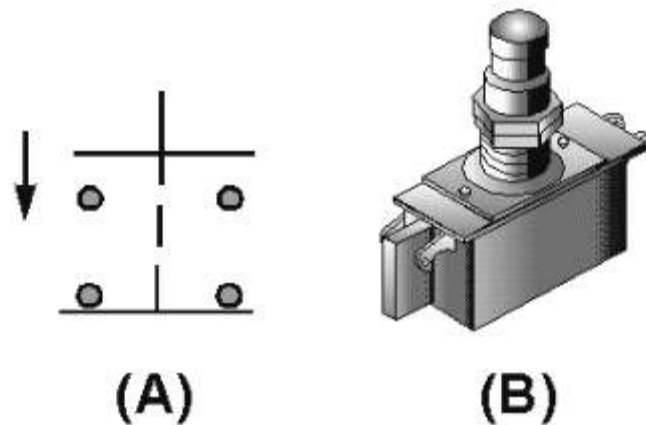

Figure 8: Double-break pushbutton switch
Figure 8 (A) shows a single-pole, double-throw switch. The illustration shows three terminals (connections) on this switch. The schematic symbol for the switch is also shown. The centre connection of the schematic symbol represents the point at which current enters the switch. The left and right connections represent the two different points to which this current can be switched. From the schematic symbol, it is easy to determine that this is a single-pole, double-throw switch. Now look at figure 8 (B).
Figure 8 (C) shows a double-pole, double-throw switch and its schematic symbol. Figure 8 (D) shows a four-pole, double-throw switch and its schematic symbol. It might help you to think of switches with more than one pole as several switches connected together mechanically. For example, the knife switch shown in figure 8 (D) could be thought of as four single-pole, double-throw switches mechanically connected together.